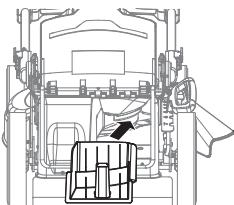
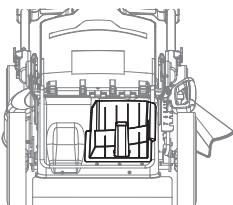

Fig. 4A
Fig. 4B
2. Insert the mulch plug and ensure it is locked in place. You will hear a click when it is securely locked (Fig. 4A/Fig. 4B).